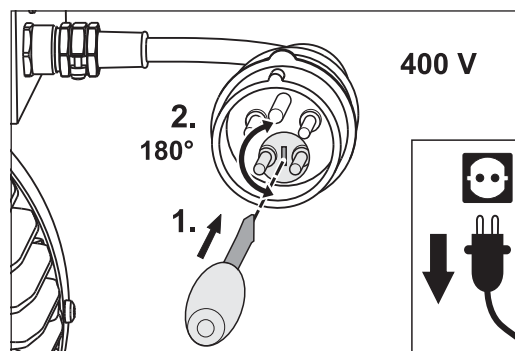

Fig. 22 Change the rotation direction of the motor by turning the phase changing switch at 180°.
- 2 Put a screwdriver in the slit of the phase changing switch in the plug of the motor cable (Fig. 22, 1.).
To unlock the phase changing switch press the screwdriver in the slit and at the same time turn the screwdriver at 180° (Fig. 22, 2.).
To unlock the phase changing switch turn the screwdriver at 180° against a small resistance (Fig. 22, 2.).